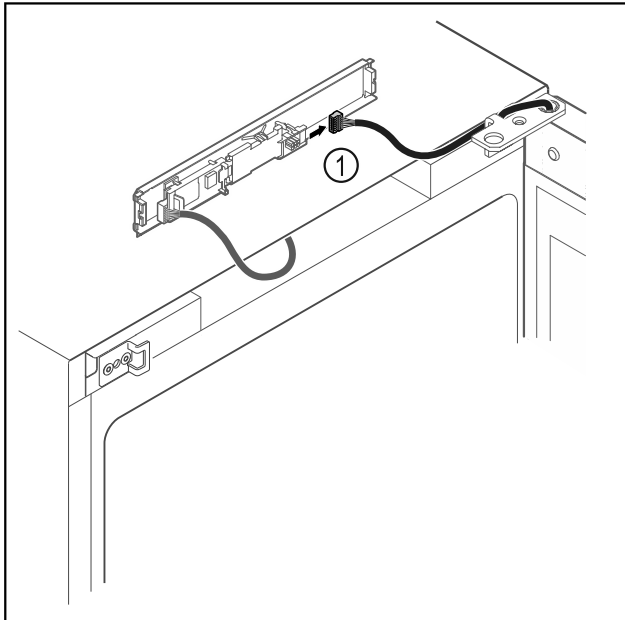

Fig. 14
- ▶ Disconnect the plug Fig. 14 (1) from the circuit board.